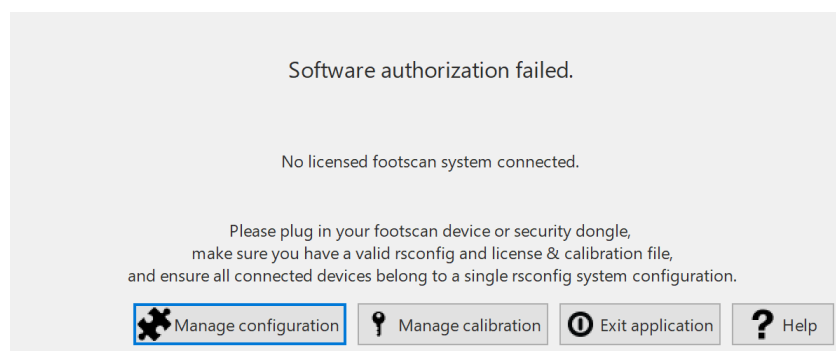

Figure 9: The license and hardware calibration dialog can be opened in the security dialog.
1. By clicking the **Manage calibration** button in the Security Dialog (Figure 9). More information about the security dialog can be found in 4.1.